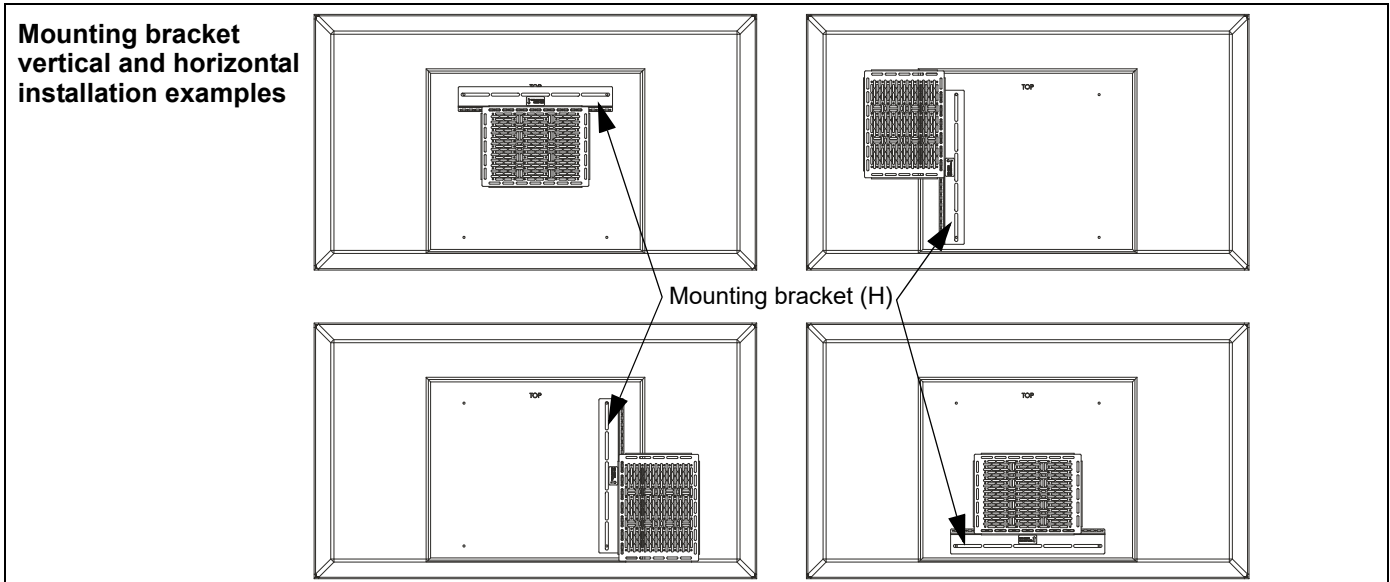

Figure 1
**NOTE:** The mounting bracket (H) may be installed using VESA holes between display mount interface brackets and the display in vertical or horizontal positions. (See Figure 1)